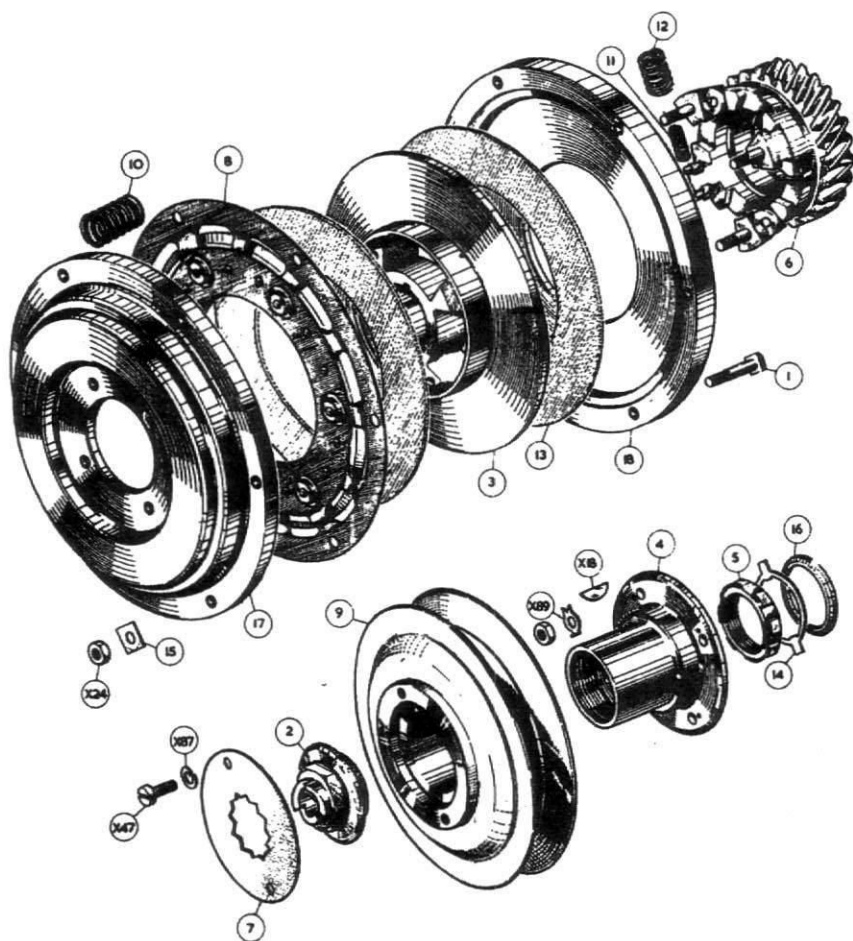

Figure 1
Understanding the damper operation is easier if one is able to reflect back on the simpler design described above. The R-R damper also rides at the front of the crankshaft, but inside the timing gear cover rather than at the fan pulley. Instead of rubber pads, the vibration energy is absorbed through the friction action of cotton duck washers sandwiched, under spring pressure, between steel plates. Also, rather than being a single-function device, our crankshaft dampers are actually a composite damper, dealing with two separate engine problems. Observe the breakdown in **Figure 1** and you will note that the damper assembly also includes the pinion gear, which drives the camshaft. Think about turning a camshaft gear by hand and you will realize what an uneven load that is. As the lobes of the cam compress and then release the valve springs, the pressure needed to turn the camshaft is constantly changing, resulting in a decidedly jerky and uneven load. The radial springs (items 11 and 12) located between the dog members of the pinion gear assembly (item 6) and the friction plate (item 3, and called *friction drum* in Rolls-Royce language), provide for a spring-loaded coupling to dampen this uneven camshaft load. Clever indeed, but not without greatly complicating the business of setting the valve timing. This smoothing out of the camshaft load accounts for the use of "spring drive" in the Rolls-Royce name for these damper units.
Careful study of the components in Fig. 1 reveals that only one item, the friction plate (with serrated nut and washers), is actually attached to the engine crankshaft. All other metal components in the illustration are joined together to form the floating mass of the inertial flywheel. Again we have the two basic parts